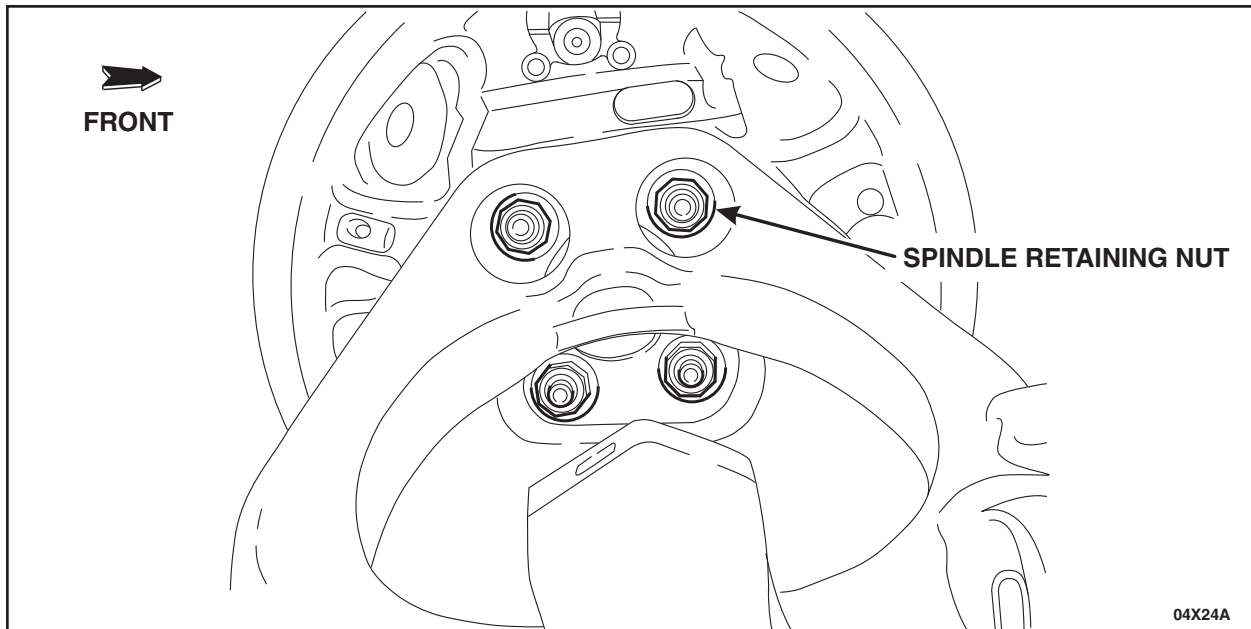

FIGURE 8
7. Remove the four spindle retaining nuts. See Figure 8.
15. Install the four spindle retaining nuts. See Figure 8.